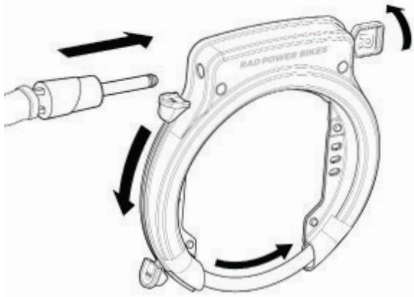

Figure 12: Install the security chain and lock the shackle
- c. Turn the key clockwise and press the thumb lever toward the wheel lock opening until the shackle locks in the fully closed position (Figure 12). Then turn the key counter-clockwise to lock the shackle in this position. Make sure the shackle does not interfere with any spokes or the rim of the wheel. Check that the bike is secure. Remove the key.